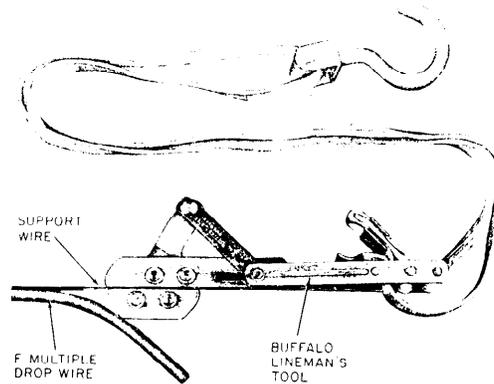

Fig. 10 - Buffalo Lineman's Tool, Catalog No. 1
- (1) Pay out multiple pair ASW at building-to-pole spans as described for drop wire in Section 462-400-205.
- (2) Using a Buffalo lineman's tool, catalog No. 1 (Fig. 10), tension the wire to the required sag. See Part 5 for stringing sags.